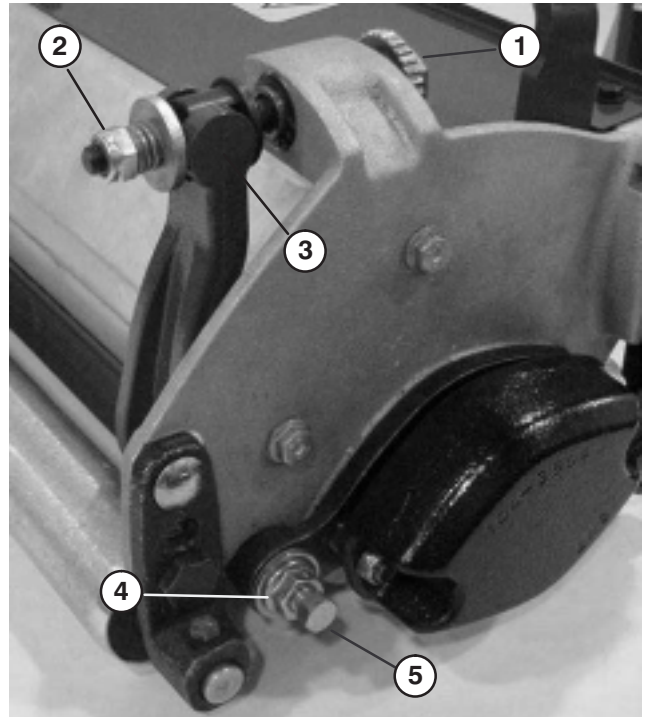

Figure 51
1. Turn bedbar adjuster screw, counterclockwise, to back bedknife away from reel (Fig. 51).
2. Back out the spring tension nut, until the washer is no longer tensioned against the bedbar (Fig. 51).
3. On each side of the machine, loosen the jam nut securing the bedbar bolt (Fig. 51).
4. Remove each bedbar bolt allowing bedbar to be pulled downward and removed from machine. Account for 2 nylon and 2 stamped steel washers on each end of bedbar (Fig. 51).